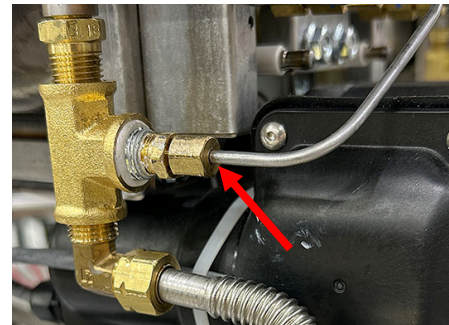

Figure 17
- 9) Disconnect the gas lines from the T-fitting elbow (see Figure 17).